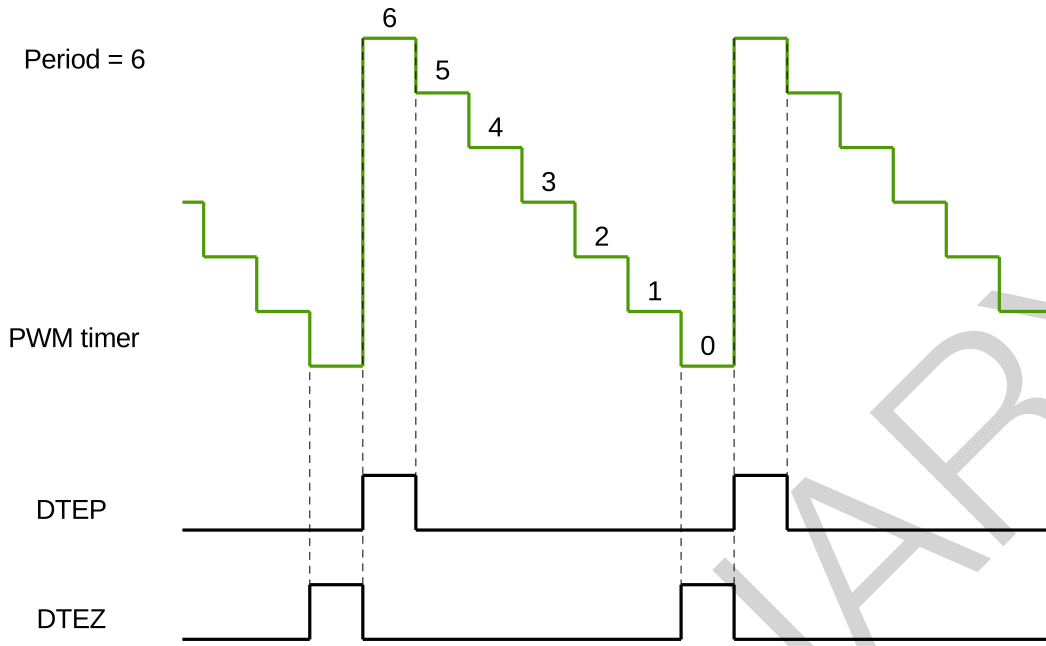

Figure 33-12. DTEP and DTEZ Generation in Count-Down Mode
2. DTEP and DTEZ do not happen simultaneously. When the PWM timer is in count-down mode, DTEZ will always happen one cycle earlier than DTEP, as demonstrated in Figure 33-12, so their action on PWM signals will not interrupt each other. When the PWM timer is in count-up-down mode, DTEZ will not occur.